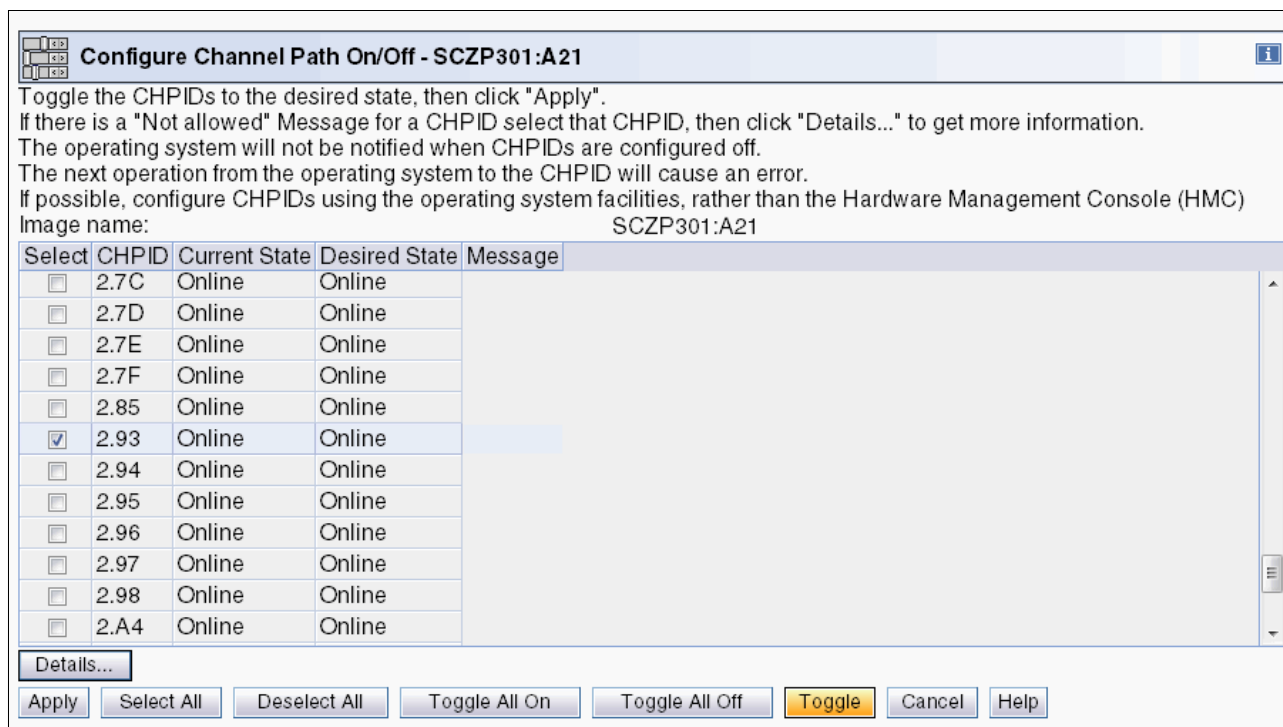

Figure 7-17 Toggling a CHPID offline
- 10.To change the state of the selected CHPID from offline to online, or online to offline, click the **Toggle** button at the bottom of the window, as shown in Figure 7-17.